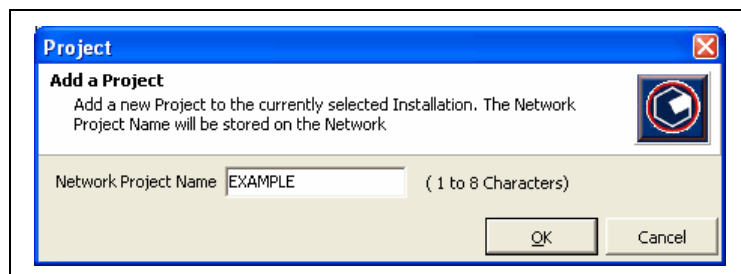

Figure 23
- 7) For this example, select "Create a Project with a different name". You are then prompted to enter a new Project Name (Figure 23). Type "EXAMPLE", then click OK.